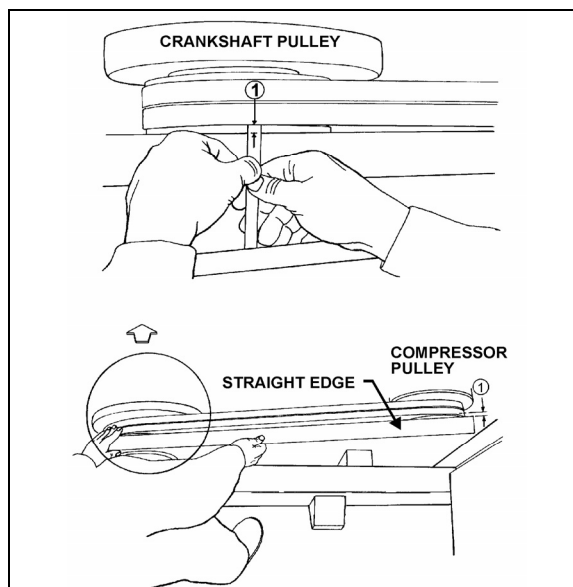

FIGURE 24: COMPRESSOR ALIGNMENT
2. Check the distance between each extremity of straight edge (1, Fig. 24) and drive belt. If they are different, loosen the pillow block compressor bolts and with a hammer, knock compressor pillow block to slide it, in order to obtain the same distance; then tighten bolts.